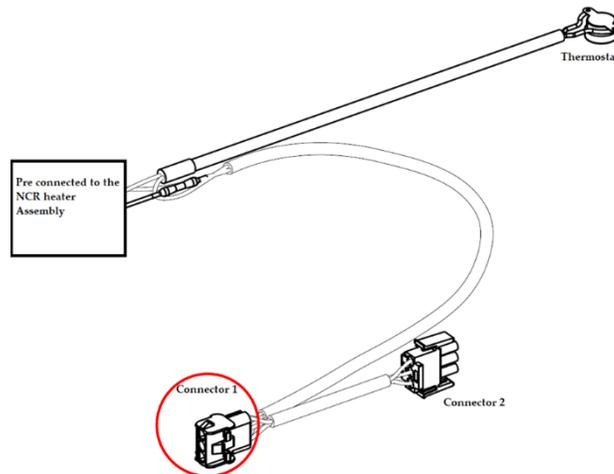
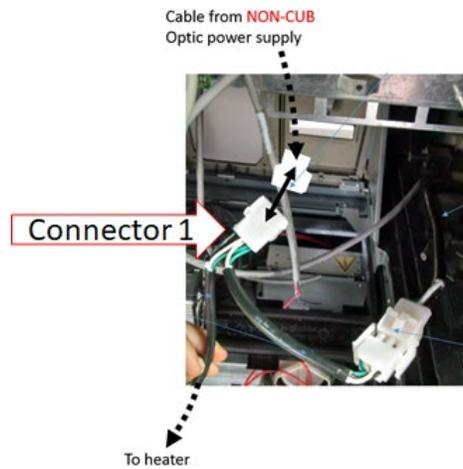

Figure 128
Figure 129
12) Attach Connector 1 (identified in Figure 128) to the NON-Invenco Link OPTIC power supply cable as shown in Figure 129.